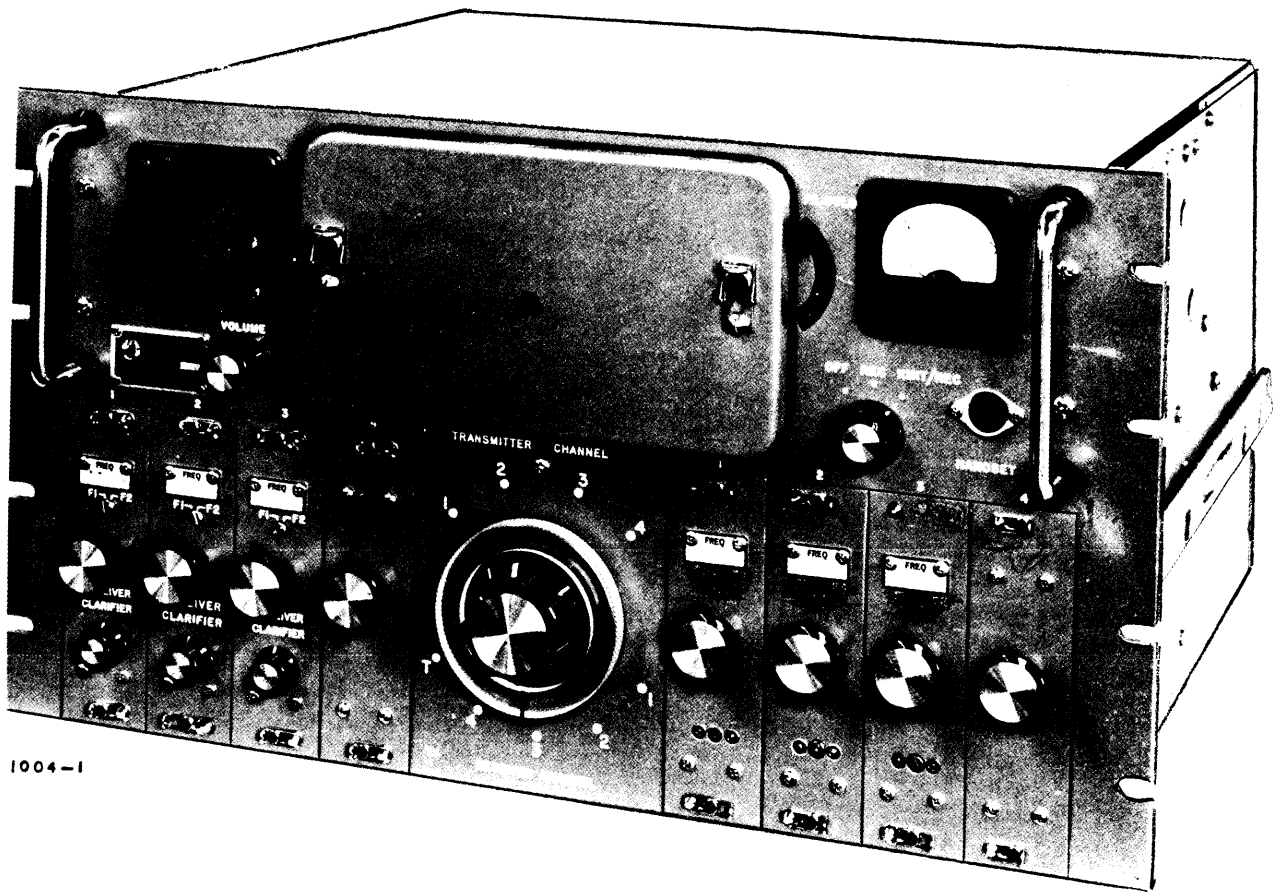

Figure 1-1. Transistorized SSB Transmitter/Receiver, Model TTR-10
a. GENERAL. - Transistorized SSB Transmitter/Receiver, Model TTR-10A (figure 1-1) is a four-channel transmitter/receiver covering the 2- to 32-mc frequency range and with the capability of simplex or duplex operation. The TTR-10 contains both a fully-transistorized superheterodyne receiver, and a fully transistorized transmitter that is coupled with a high-power vacuum-tube linear amplifier. Operating potentials for the TTR-10 are provided by one of six different plug-in power-supply modules; these power supplies are available for use with a-c or d-c input power (refer to paragraph 1-4). For information regarding any of the power-supply modules, refer to the TPS()-1 manual.